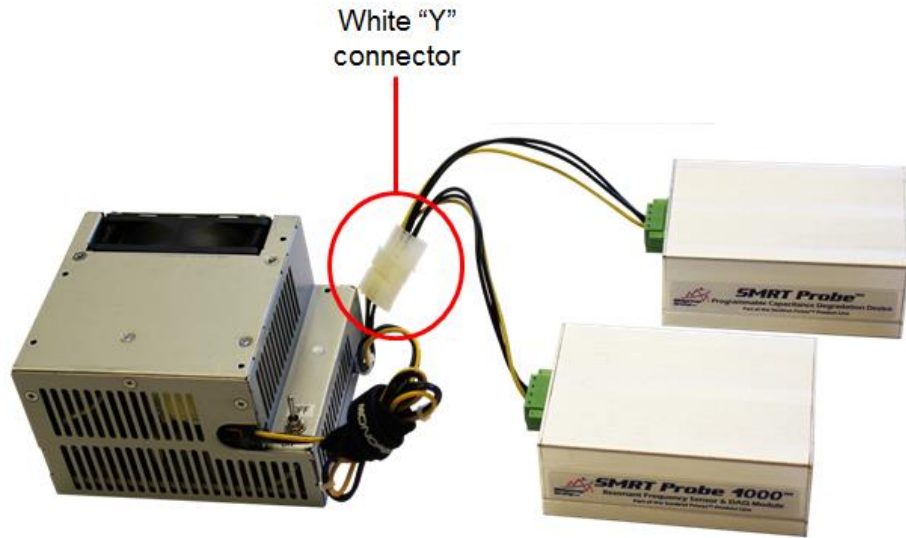

Figure 5: Connecting the white plugs
4. Connect the white plug coming from the AcBel 200W power supply to the white plastic “Y” connector that is wired to both the SMRT Probe device and the PCDD, as shown in Figure 5.
- The green connectors are plugged into the SMRT Probe 4000 and the PCDD (see Figure 5)
- The white plug coming from the AcBel 200W power supply is connected to the white plastic “Y” connector (see Figure 5)